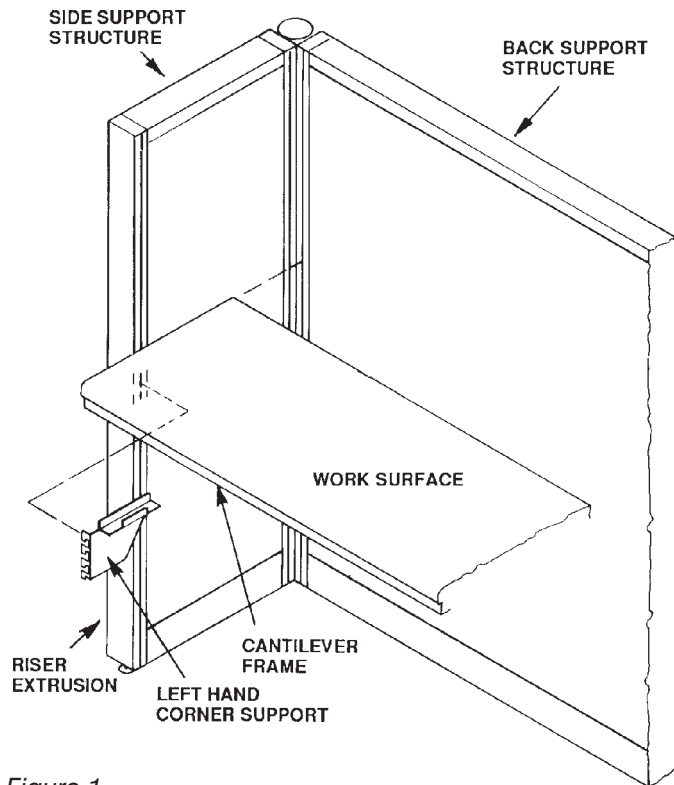
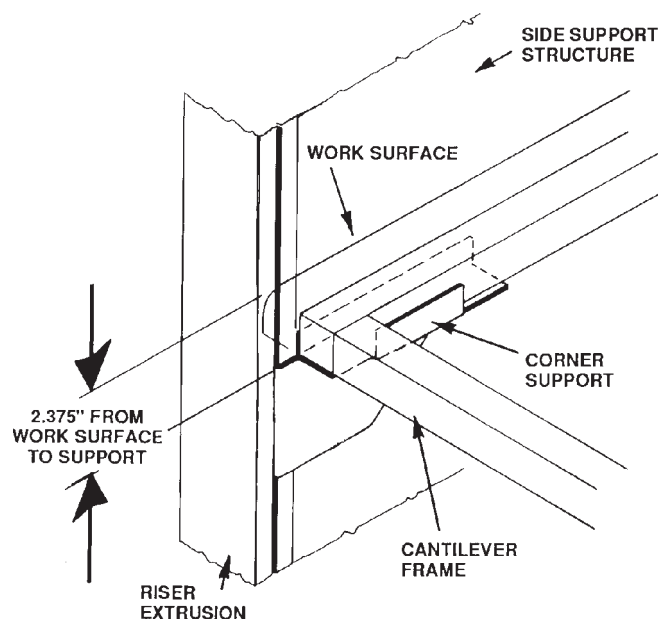

Figure 1
Figure 2
#### Refer to Figures 1 and 2:
1. Insert hooks of corner support into slots in riser extrusion. (See Figure 1) Corner support should be placed 2.375" below top of work surface. (See Figure 2)